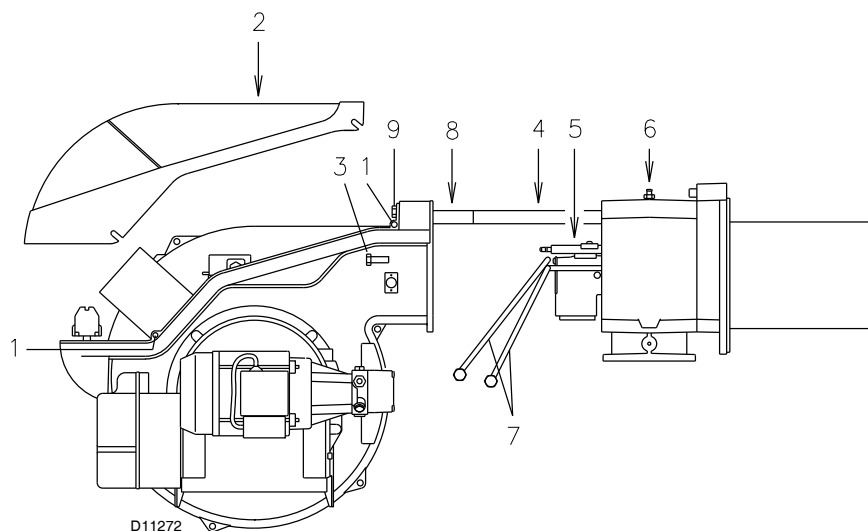

Fig. 44
Open the burner and make sure that all components of the combustion head are in good condition, not deformed by the high temperatures, free of impurities from the surroundings and correctly positioned. If in doubt, disassemble the elbow fitting 5)(Fig. 44).
- Loosen screws 1)(Fig. 44) and withdraw the cover 2).